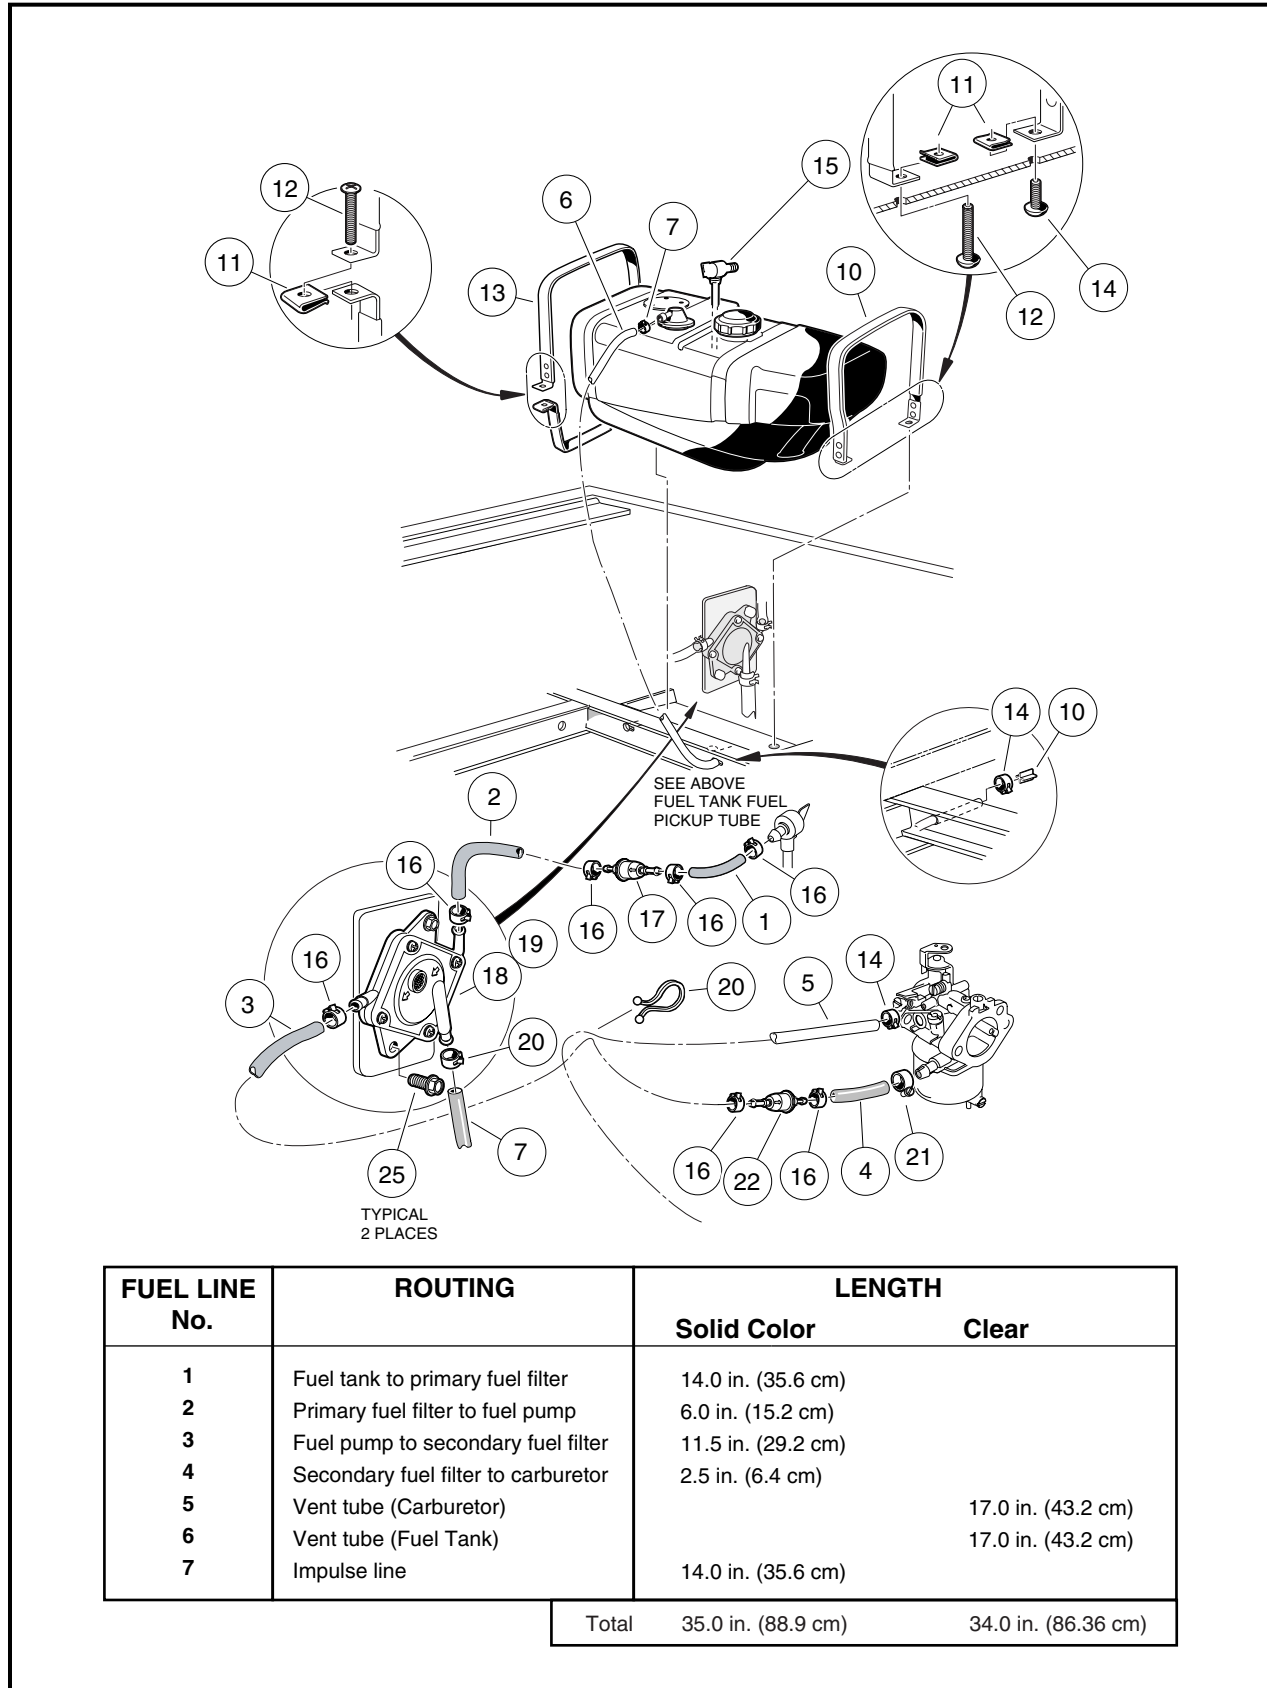
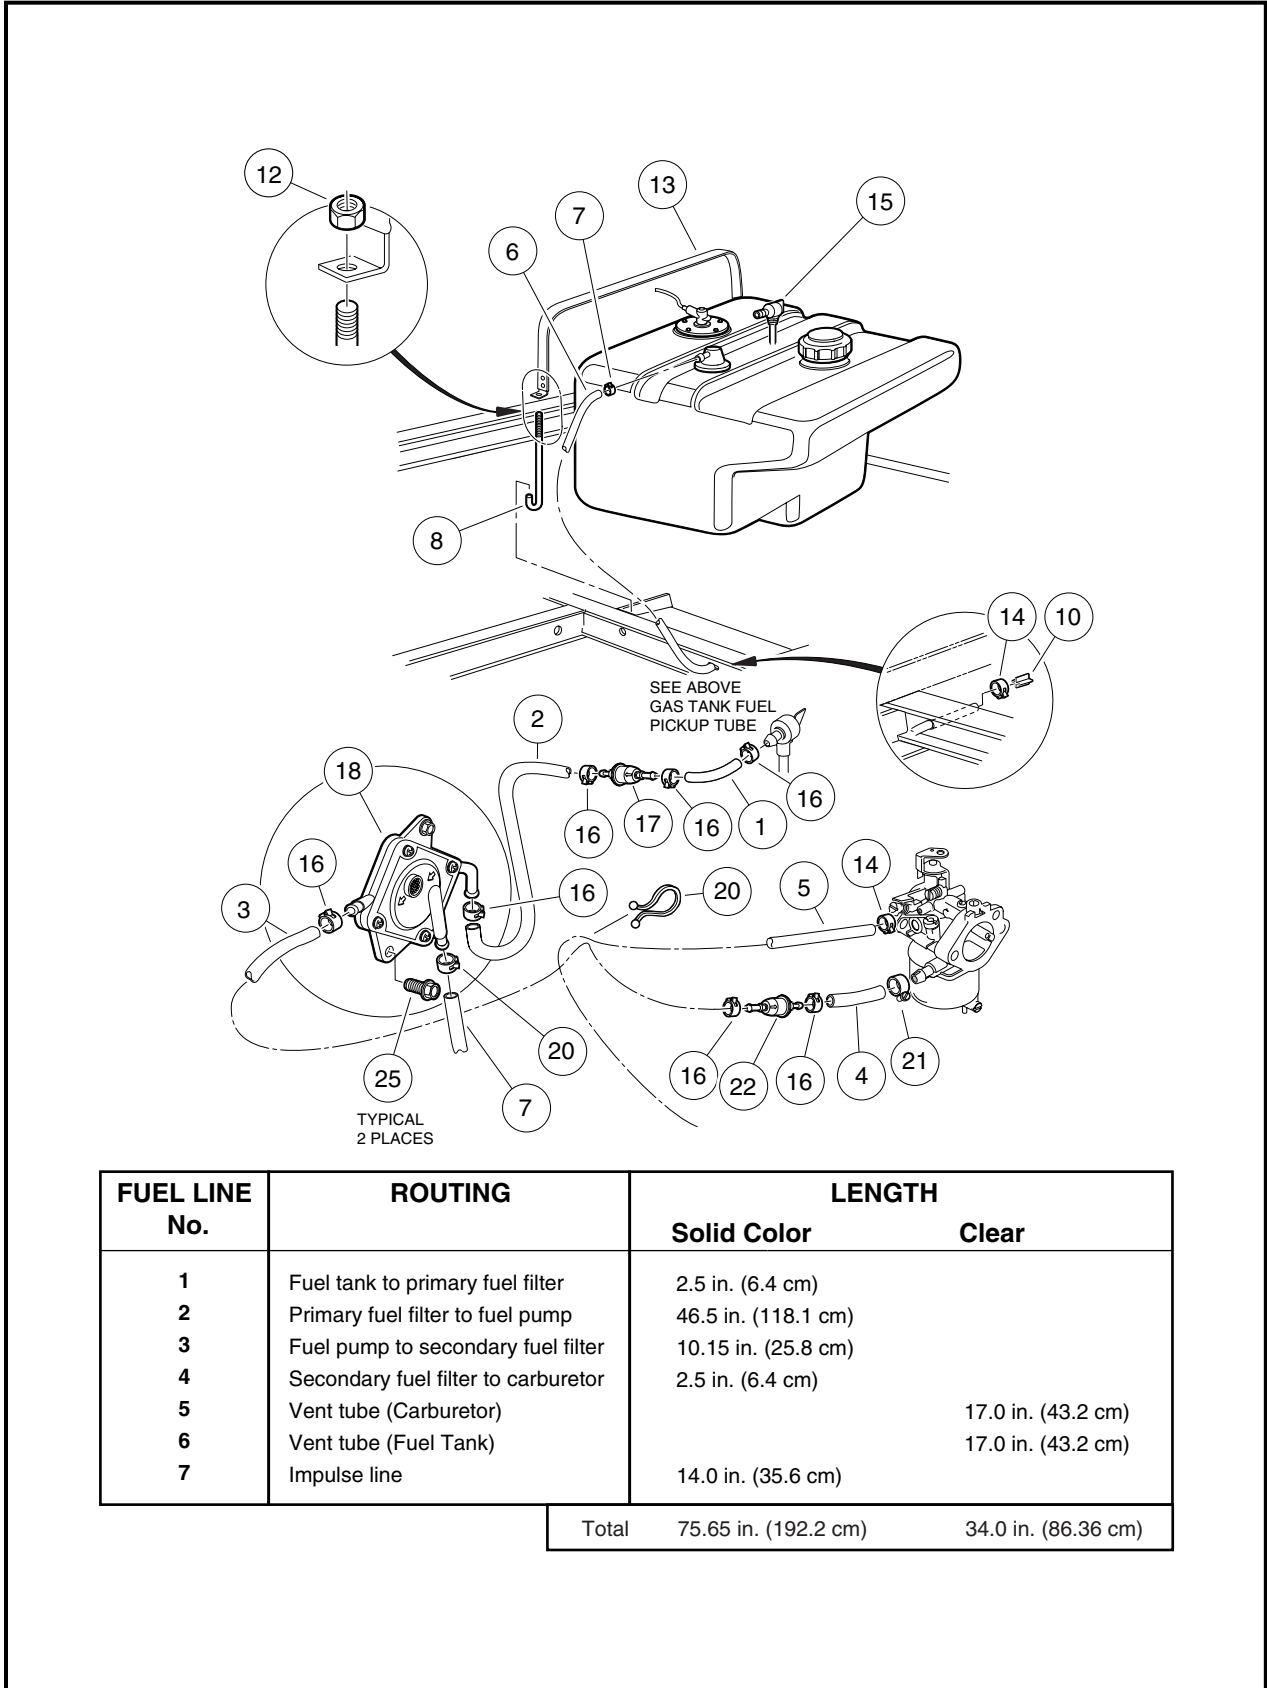

Figure 14-15 Bobcat 2100 Fuel and Vent Lines
Figure 14-16 Bobcat 1200S Fuel and Vent Lines
4. Remove hardware (25) attaching the fuel pump (18) and lift fuel pump from the engine compartment (**Figure 14-15, Page 14-24 or Figure 14-16, Page 14-25**).
5. Remove the clamp (20) and impulse line (7) from fuel pump.
6. Remove clamps (16) and fuel lines (2 and 3) from the fuel pump. Plug lines to prevent gasoline leakage. **See following WARNING.**
1. Connect the fuel line (2) that comes from the fuel tank filter (17) to the fuel pump (18). Install a new clamp (16) (**Figure 14-15, Page 14-24** or **Figure 14-16, Page 14-25**). **See same figures for proper routing of fuel lines. See following NOTE.**
**NOTE:** Be sure to connect the fuel line (2), that comes from the primary fuel filter (17), to the inlet nipple on the pump. Direction of fuel flow is indicated by the arrows on the fuel pump.
2. Connect the fuel line (3) to the fuel pump (18) that goes to the secondary fuel filter (22). Install a new clamp (16).
3. Connect the impulse line (7) to the bottom nipple on the fuel pump (18). Use a new clamp (20).
4. Install the fuel pump onto the mounting bracket with two thread-rolling screws (25) and tighten to 40 in-lb (4.5 N·m).
10. Loosen clamp (16) and remove the fuel line (1) from fuel tank shut-off valve (15) (**Figure 14-15, Page 14-24** or **Figure 14-16, Page 14-25**).
11. Loosen clamp (7) and remove vent tube (6) from the fuel tank
- 12.1. Loosen the straps (13 and 10) by removing screws (12 and 14) from the speed nuts (11) (**Figure 14-15, Page 14-24**).
- 13.1. Loosen the strap (13) by removing nut (12) from J-bolt (8) (**Figure 14-16, Page 14-25**).
- 1.1. Position the retaining straps (13 and 10) and install the fuel tank (**Figure 14-15, Page 14-24**).
- 1.2. Install the screws (12 and 14) into the speed nuts (11) and tighten screws to 25 in-lb (2.8 N·m) (**Figure 14-15, Page 14-24**).
- 2.1. Position the retaining strap (13) and install the fuel tank (**Figure 14-16, Page 14-25**).
3. Connect the vent tube (6) to the fuel tank vent and secure with a new clamp (7) (**Figure 14-15, Page 14-24 or Figure 14-16, Page 14-25**).
4. Connect fuel line (1) to the fuel tank shut-off valve (15) and secure with a new clamp (16).
Fuel line no. 1 runs directly from the fuel tank to the primary fuel filter (17). Arrow indicates flow **(Figure 14-15, Page 14-24 or Figure 14-16, Page 14-25)**.